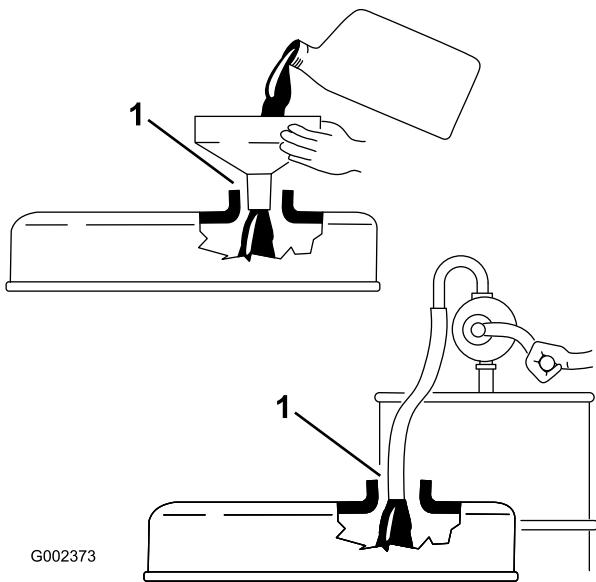

Figure 13
**Important:** When adding engine oil or filling oil, there must be clearance between the oil fill device and the oil fill hole in the valve cover as shown in Figure 13. This clearance is necessary to permit venting when filling, which prevents oil from overrunning into the breather.